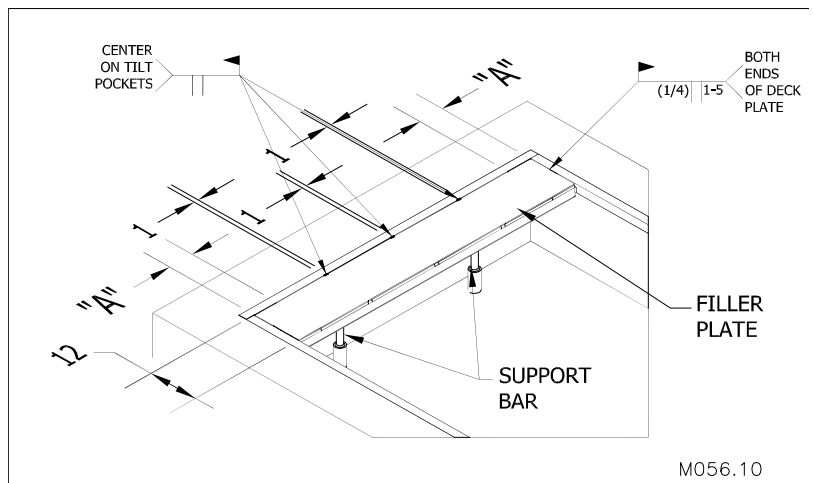

Figure 23: Installing the filler plate
11. ___ Place the filler plate on top of the rectangular tubes as indicated in "Figure 23: Installing the filler plate" on page 17 making sure the filler plate sits flat and square to the rear and side curb angles.
12. ___ Weld 1 inch butt weld at the mark off locations on the deck plate as indicated in "Figure 23: Installing the filler plate" on page 17.